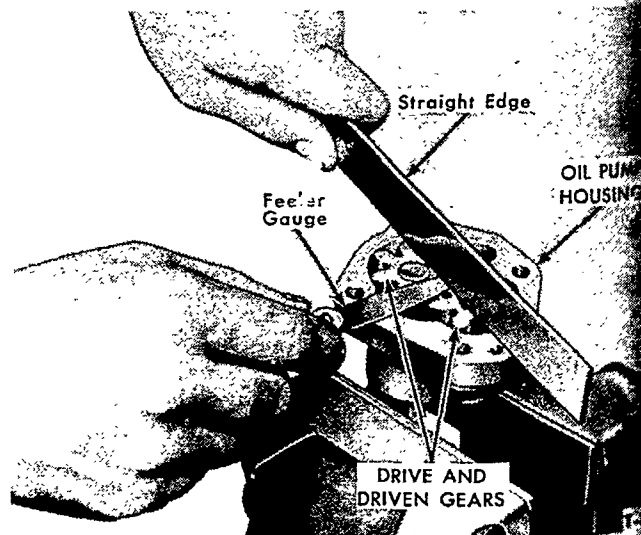

Figure 34—Checking Oil Pump for Wear
4. Place the gears in the housing as shown in Figure 34. Place a straight edge on the pump body across the gears, then check the clearance with a feeler gauge. If the clearance exceeds 0.004", replace the gears and/or housing.